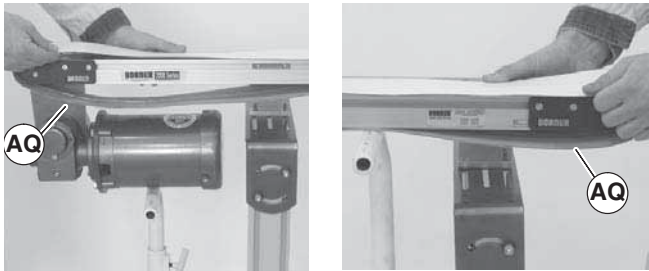

Figure 22
7. Remove belt (Figure 22, item AQ) from conveyor.